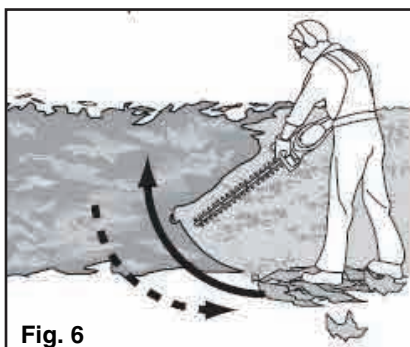

Fig. 6
- This will prevent any of the trimmings falling into the path of the area still to be cut (Fig. 6).